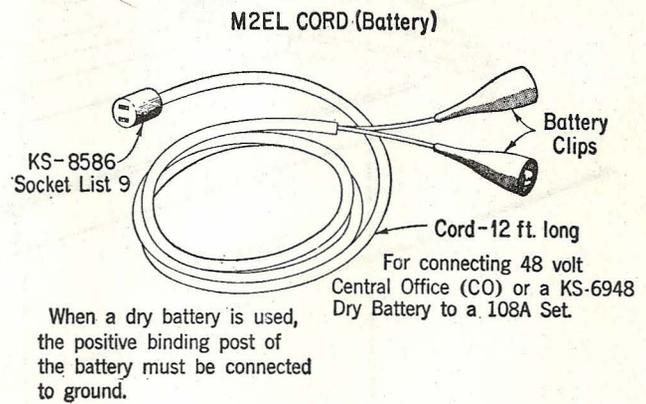

Fig. 4
4.02 *M2EL Cord*: This cord is illustrated in Fig. 4.